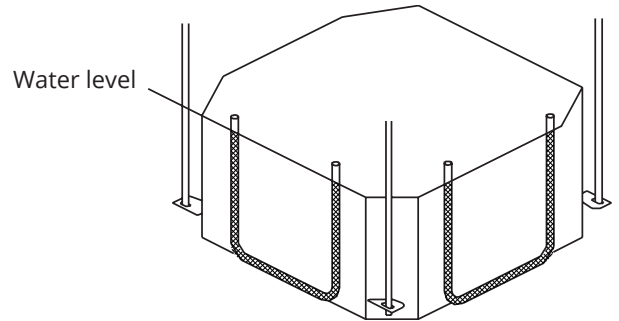

**Fig. 4.6**
**NOTE:** The bottom of the unit should be 10 - 18mm (0.4-0.7") higher than the ceiling board. Generally, L (indicated in Fig. 4.6) should be half the length of the suspension bolt or long enough to prevent the nuts from coming off.